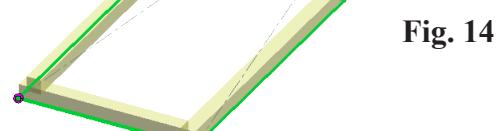

Fig. 14
Step 6. Zoom in around **right end of beam**, Fig. 14. To **zoom**, hold down **Shift key** and drag with middle mouse button (wheel). To **pan**, hold down **Ctrl key** and drag with middle mouse button (wheel).